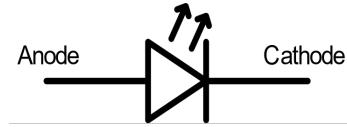

FIGURE 8. LED symbol.
**2.11. Light Emitting Diodes.** The symbol for the *light-emitting diode (LED)* shown in Fig. 8 represents the LED’s behavior as a diode, and the ability of the LED to emit light. An LED is a p-n junction that has been constructed so as to allow energy released as photons when electrons and holes that cross the junction in the diffusion current recombine. Each recombination releases energy equal to the semiconductor bandgap of the semiconductor material. LEDs are constructed from materials in which the bandgap has been tuned to produce photons of particular energy and wavelength (i.e., color). In a normal diode, this energy from recombination is just dissipated as heat in the diode. However, in an LED, the recombination occurs in a thin highly doped semiconductor layer near a transparent window, and the resulting photons are reflected out of the junction and directed into a broad beam.